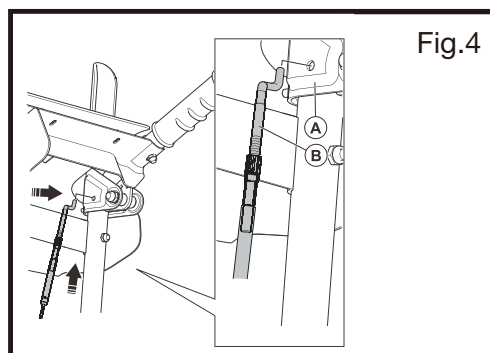

Fig.4
4. Insert the Z-shape cable head(B) into the hole on clutch handle(A) from inside to outside. The auger cable is on the left and drive cable on the right. See Fig.4.